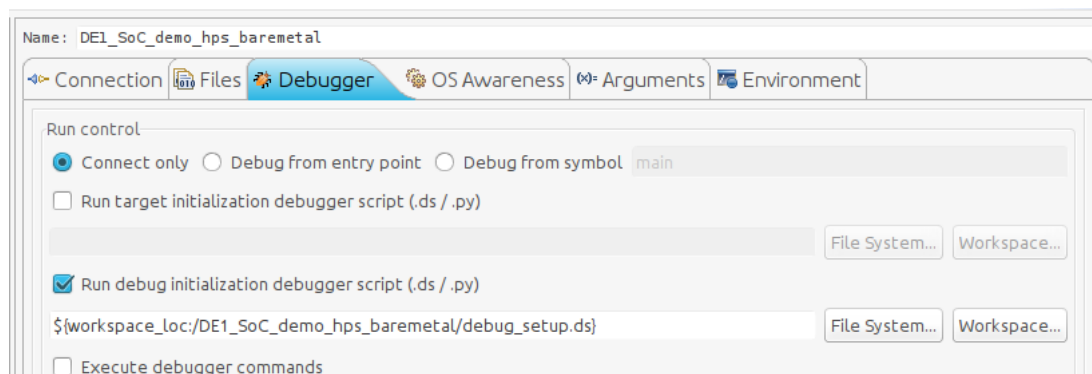

Figure 8-31. Debug Configuration "Debugger" Tab
- b. Enable the "Run **DEBUG** initialization debugger script (.ds / .py)" checkbox. Set the debug script to the one we defined for the project in 8.4.2.3.2.2. You should have something similar to Figure 8-31.